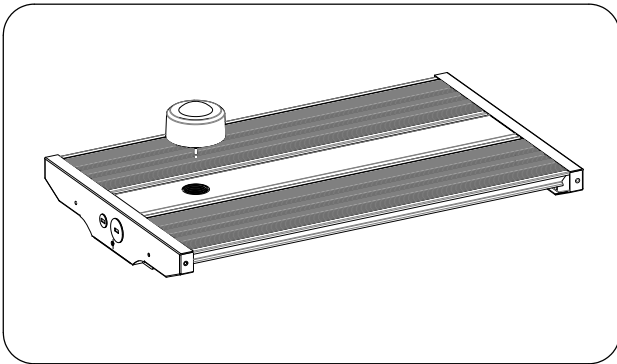
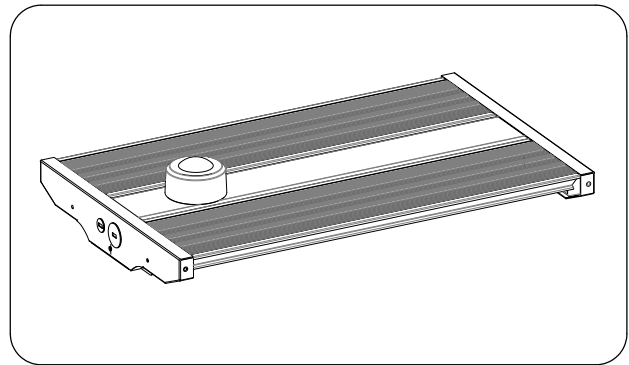

Figure 3
Figure 4
Step 2: Insert sensor into the audio jack and turn the sensor clockwise to complete installation.(Figure 3 and Figure 4)